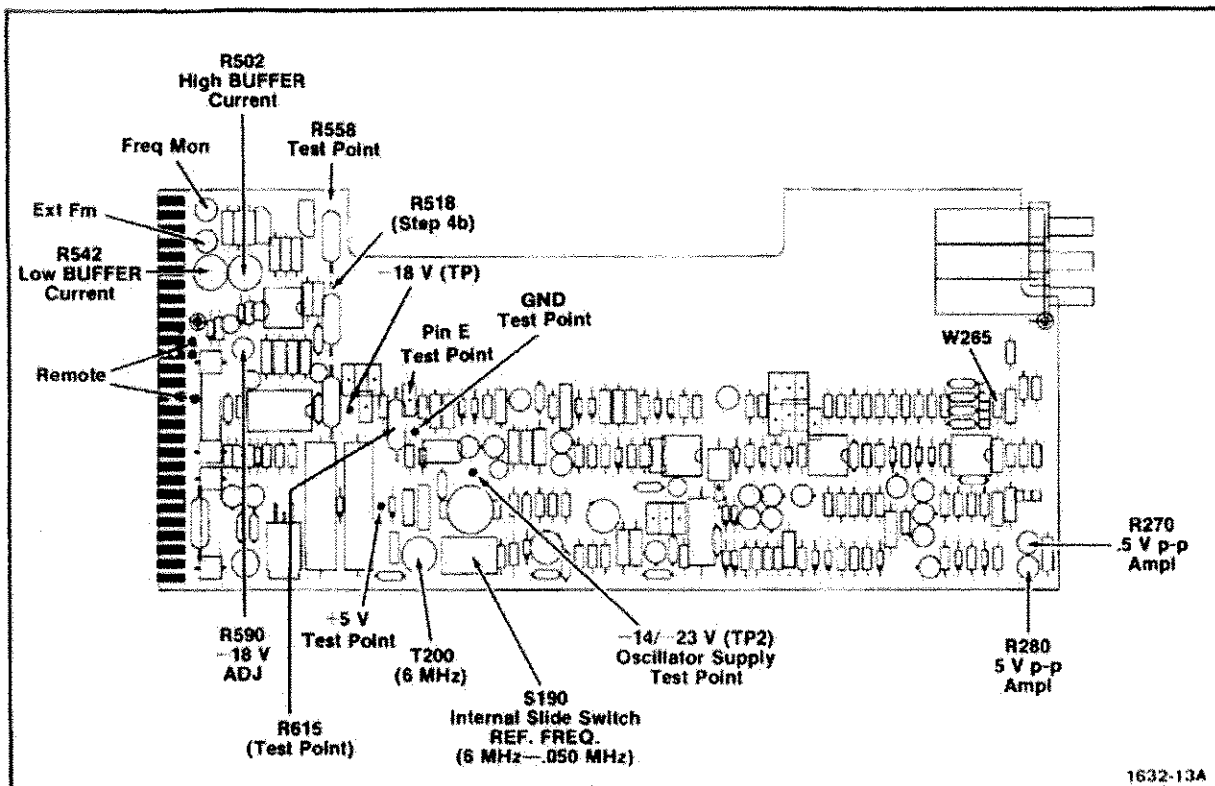
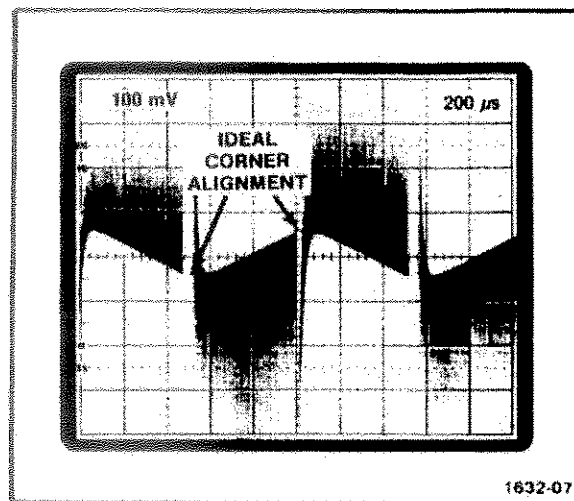
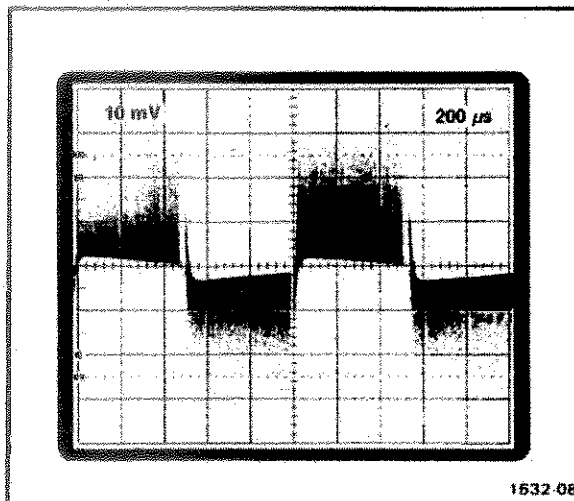

Fig. 3-1. Location of test points, connectors, and adjustments on main circuit board.
Fig. 3-2. Display of complex waveform (idealized) with 5 volt reference amplitude at 0.05 MHz, properly set.
Fig. 3-3. Display of complex waveform (idealized) with 0.5 volt reference amplitude at 0.05 MHz, properly set.
a. Connect the digital voltmeter between the -18 V test point and Gnd test point on the Main circuit board. See Fig. 3-1 for voltage test point location.
c. Adjust—-18 V adj, R590, for a meter reading of 18 volts. See Fig. 3-1 for adjustment location.
a. Connect the digital voltmeter between the +5 V test point and Gnd test point on the Main circuit board. See Fig. 3-1 for voltage test point location.
a. Connect the digital voltmeter between the -14/-23 V (TP2) test point and Gnd test point on the Main circuit board. See Fig. 3-1 for voltage test point location.
a. Connect the digital voltmeter across R615. See Fig. 3-1 for location.
b. Connect a $330\ \Omega$, 1 W resistor between the $-14/-23\text{ V}$ (TP2) testpoint and Gnd test point on the Main circuit board. See Fig. 3-1 for location.
a. Connect the digital voltmeter between Pin E test point and Gnd test point on the Main circuit board. See Fig. 3-1 for location.
f. Set the SG 504 internal slide switch, S190, to the 6 MHz position. See Fig. 3-1 for switch location.
d. Set the time-base triggering controls for a stable display; a crt display similar to Fig. 3-2 is obtained.
e. Adjust—5 V P-P Ampl. R280, so the corners of the idealized waveform are aligned as illustrated in Fig. 3-2. See Fig. 3-1 for adjustment location.
i. Set the time-base triggering controls for a stable display; a crt display similar to Fig. 3-3 is obtained.
j. Adjust—.5 V P-P Ampl. R270, so the corners of the idealized waveform are aligned as illustrated in Fig. 3-3. See Fig. 3-1 for adjustment location.
- g. Connect the digital voltmeter between R558 test point (top of resistor) and Gnd test point on the Main circuit board. See Fig. 3-1 for test point location.
- i. Disconnect the positive lead of the digital voltmeter from R558 test point and connect it to $-14/-23$ V (TP2) test point. See Fig. 3-1 for test point location.
f. Connect the digital voltmeter between R518 test point (top of resistor) and Gnd test point on the Main circuit board. See Fig. 3-1 for test point location.
k. Disconnect the positive lead of the digital voltmeter from R518 test point and connect it to $-14/-23$ V (TP2) test point. See Fig. 3-1 for test point location.
o. Disconnect the digital voltmeter and reconnect it across R615. See Fig. 3-1 for location.